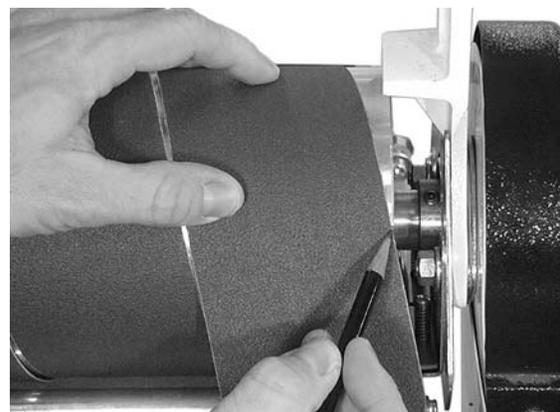

Figure 12
5. Mark the trailing end of the strip where it crosses the right (inboard) end of the drum (Figure 12).